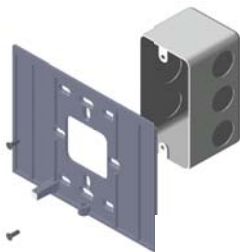

Figure 43: Installing Faceplate for EM-100 Controller
1. Install a junction box and connect to the EM-100 mounting plate at the required wall location as shown in Figure 43.